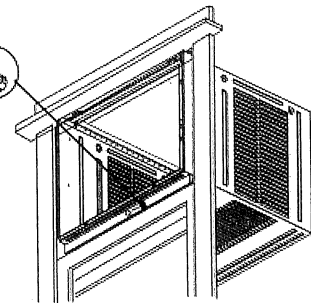

Fig. 17A
4. Attach the top angle to window frame: Use a 3/32" drill bit to drill one hole through the hole in the middle of top angle into the window frame, and drive one 3/4" (or 1/2") HEX-HEAD locking screw through hole in the middle of top angle into the window frame as shown (Fig. 17A).